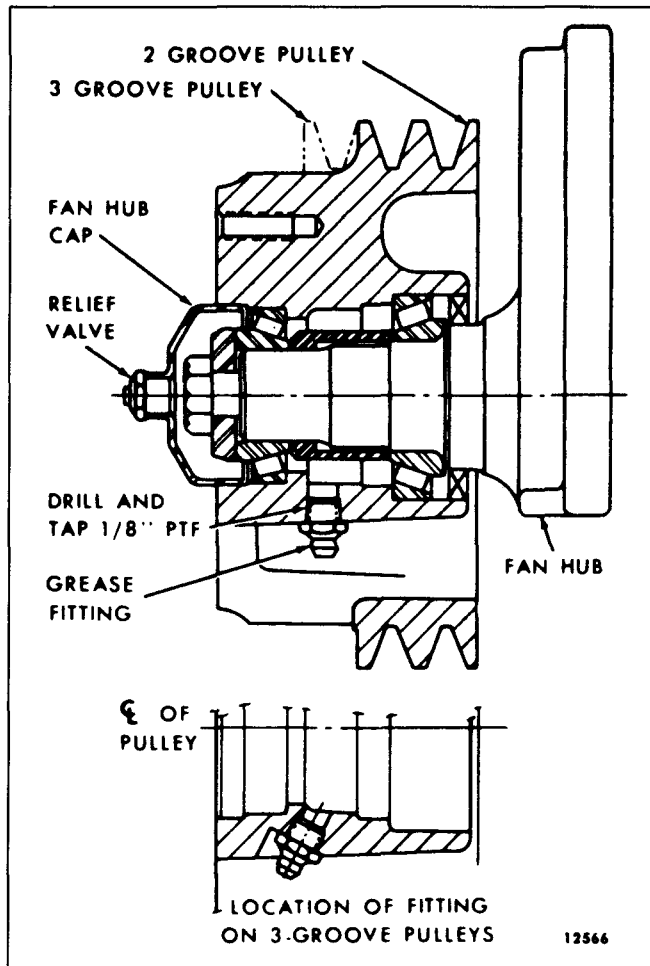

Fig. 2 – Location of Fan Hub Grease Fitting and Relief Valve
2. Drill and tap the fan hub, at the location shown in Fig. 2, to accept a 1/8" PTF x 11/16" threaded lubricator fitting. Clean the hub to remove any metal chips.
4. Install a *new* fan hub cap which is threaded for a relief valve (Fig. 2).